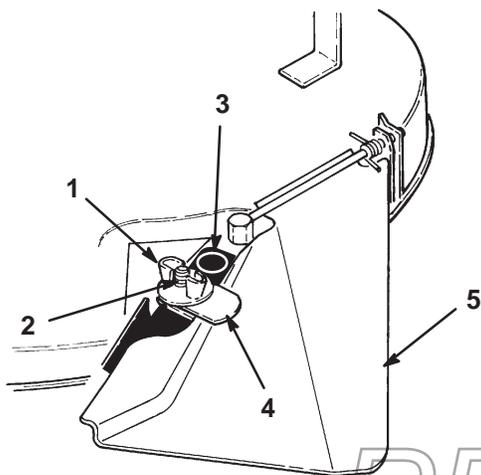

Figure 6
2. Remove the wing nut securing the discharge cover (Fig. 6) to the mower housing. **NEVER REMOVE THE GRASS DEFLECTOR FROM THE MOWER HOUSING (Fig. 6).**